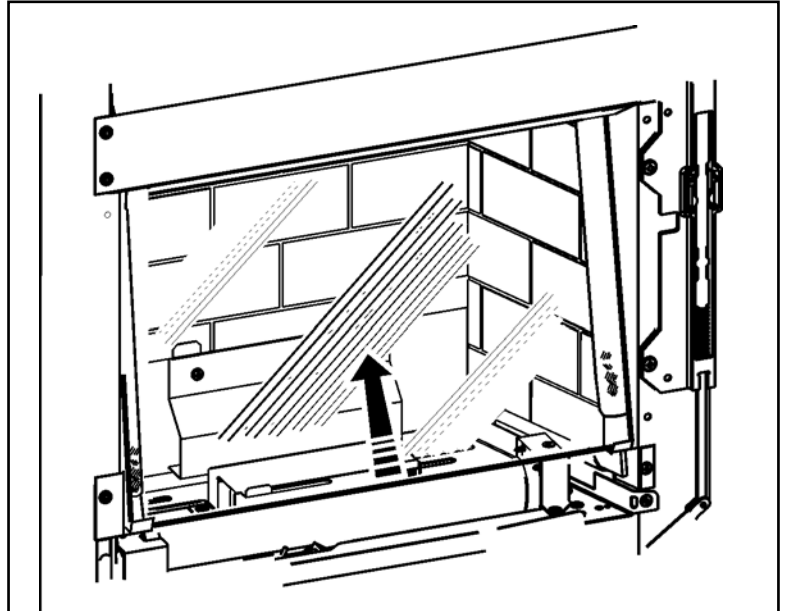

Figure 40. Glass panel removal
2. Lift the glass panel clear of its lower support channels (See figure 40). Lower and remove the glass panel.